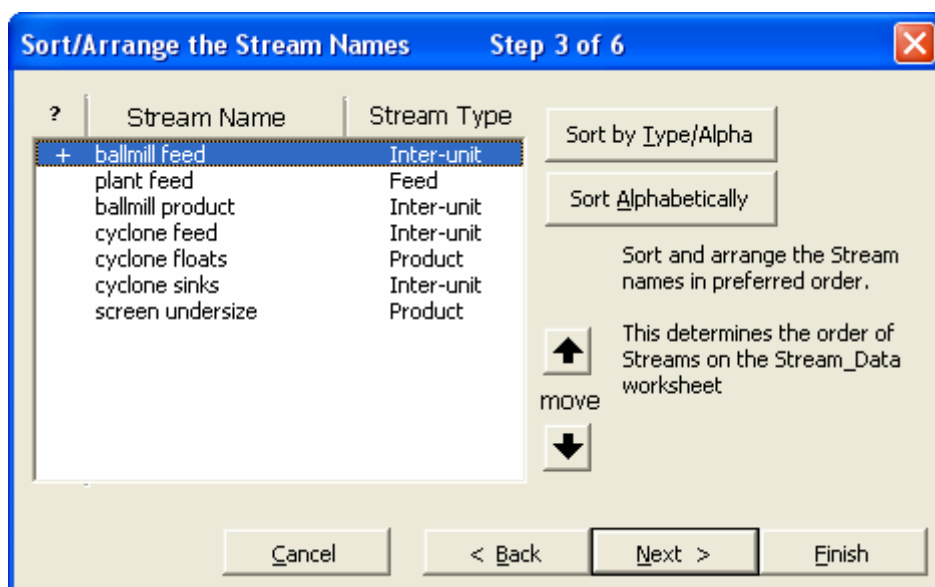

Figure 26: Step 3 of 6
7.8 One will notice that each of the steps from 1 to 6 of the wizard are the same as figures 10 – 15, except for Step 3 of 6 in figure 26 below.